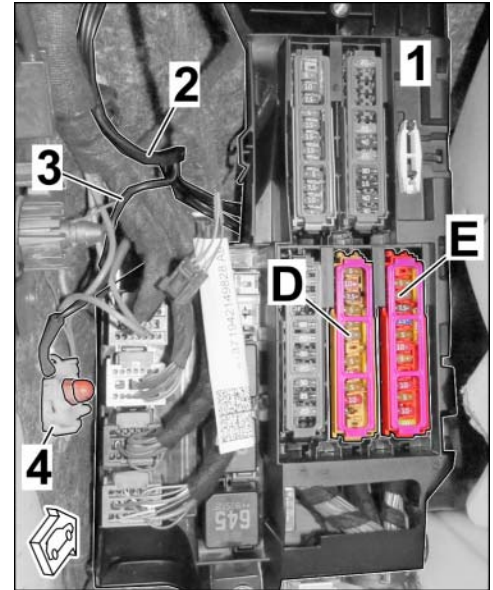

Figure 15
3.2.3 Connect power supply as shown in the table (⇒ *Figure 15*).
3.2.5 Protect the front camera power supply with new fuses (⇒ *Figure 15 -D6 and E3-*).
3.2.6 Route line BK; 0.5² (terminal 31) to the ground pin 13 (MB13 ⇒ *Figure 15 -4-*), shorten it and install it on the ground pin using cable ring eyelet A6.